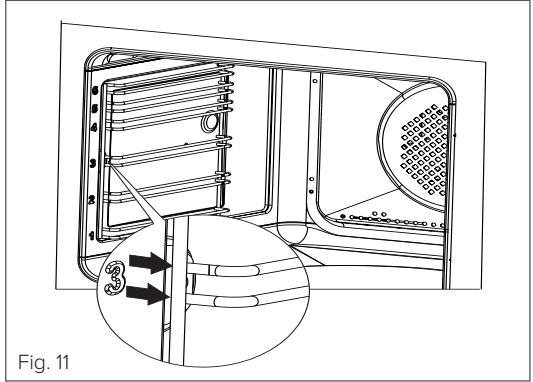

Fig. 11
- Take a firm hold of the shelf support in the middle. Place your thumb against the oven wall and lever the support out of the support holes (Fig. 11)